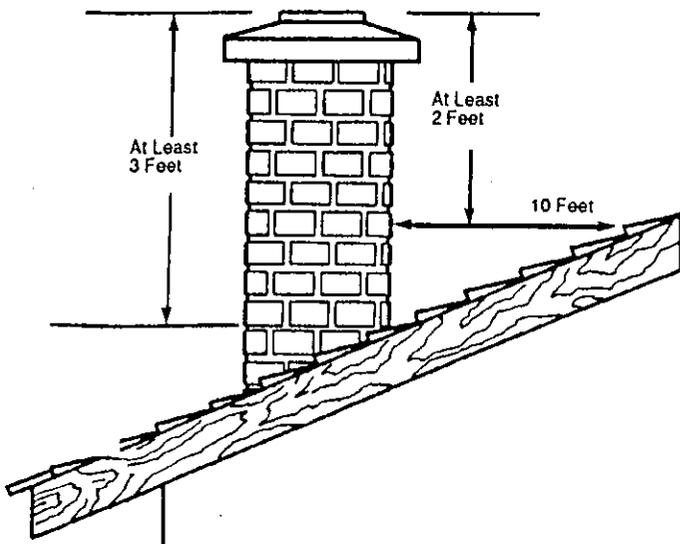

Figure 7
* A chimney must be the required height above the roof or other obstruction for safety and for proper draft operation. The requirement is that the chimney must be at least 3' higher than the highest point where it passes through the roof and at least 2' higher than the highest part of the roof or structure that is within 10' of the chimney, measured horizontally (Figure 7).
The chimney must be the required height above the roof or other obstruction for safety and proper draft operation (Figure 7).